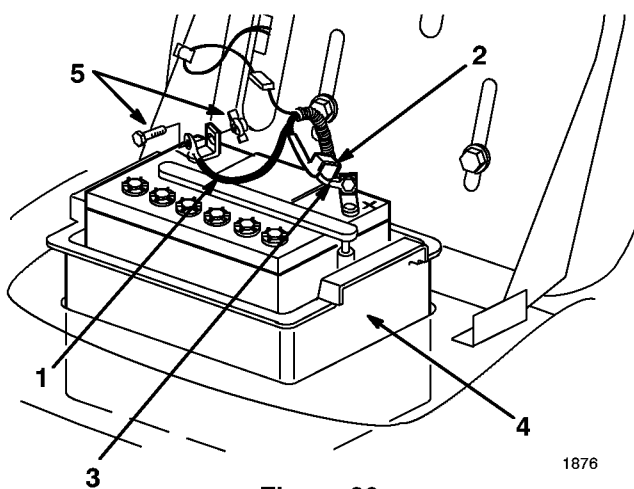

Figure 20
3. Disconnect the negative (black) ground cable from the battery post (Fig. 20).
4. Slide the rubber cover up the positive (red) cable. Disconnect the positive (red) cable from the battery post (Fig. 20).
3. Using the bolt and wing nut, connect the positive (red) cable to the positive (+) battery post (Fig. 20). Slide the rubber cover over the battery post.
4. Using the bolt and wing nut, connect the negative (black) cable to the negative (-) battery post (Fig. 20).